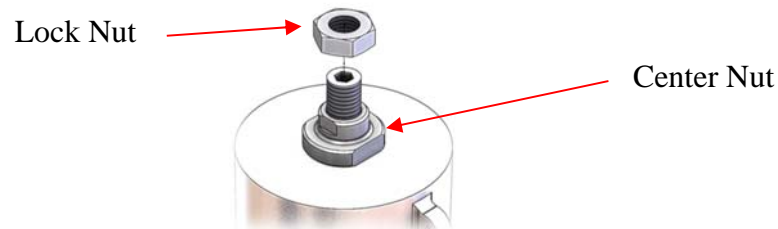

Figure 20: 2" Upper Bonnet Components
- 10. If not already done, unscrew the lock nut and set it aside. See Figure 20.